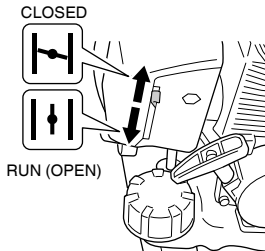

Fig. 16
3. Set choke lever to CLOSED position. (Fig. 16)